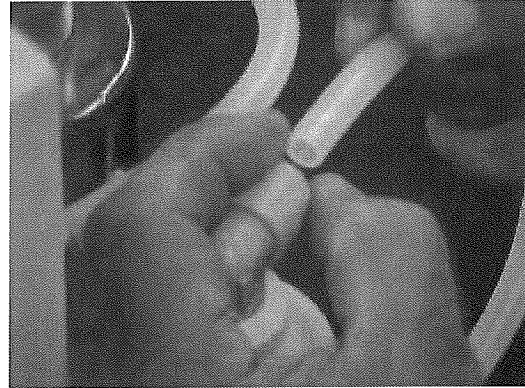

Figure 2
4. Hold the retaining ring against the fitting and pull the tubing (figure 2) out of the fitting.